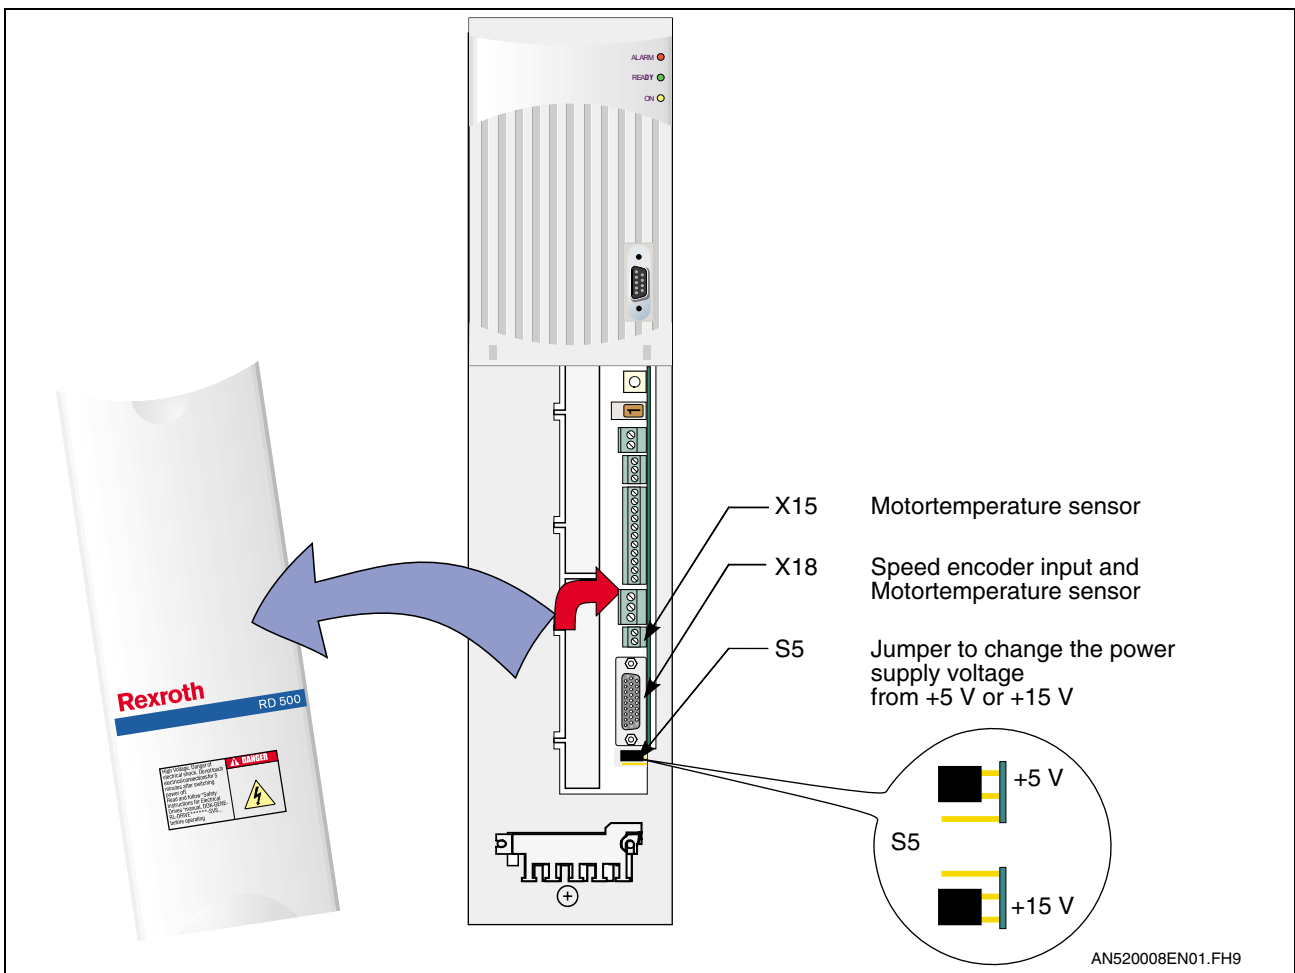

Fig.:4-17 Setting the encoder power supply voltage
Power supply voltage U_B (DC)	15 V (jumper S5; refer to Fig.:4-17 Setting the encoder power supply voltage)